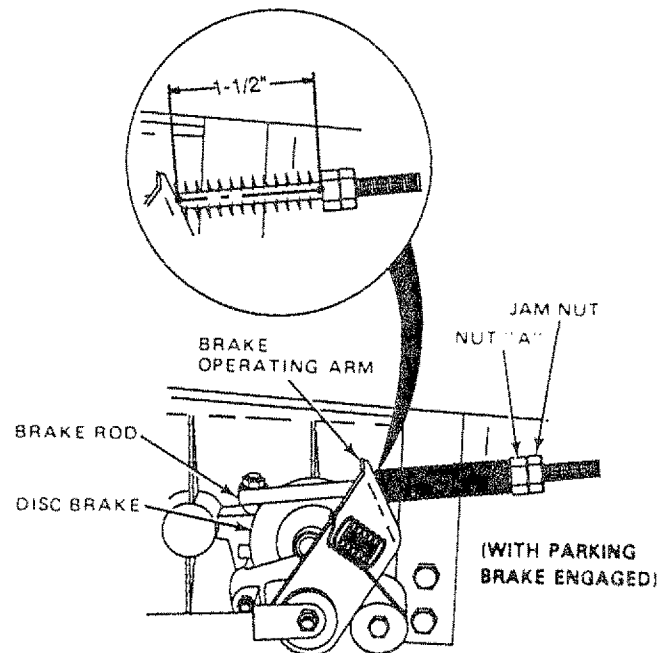

FIGURE 22
This tractor is equipped with an adjustable brake system mounted on the right side of the transaxle (Fig. 22).
- If distance is other than 1-1/2", loosen jam nut (Fig. 22) and turn nut "A" until distance becomes 1-1/2". Retighten jam nut against Nut "A".